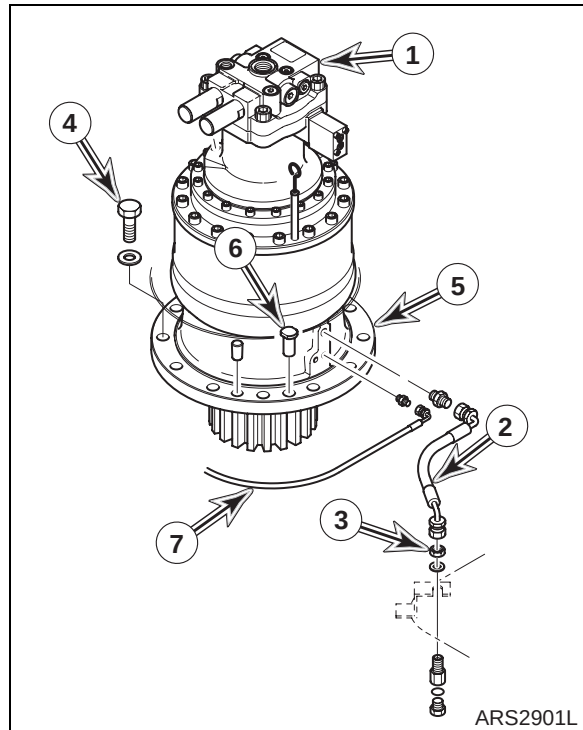

Figure 34
2. Make sure two alignment pins (6, Figure 34) are installed in flange of swing reduction gearbox (5).
3. Using a suitable lifting device, sling swing motor (1, Figure 34) and position swing motor and reduction gearbox (5) as an assembly on unit.
4. Install twelve bolts and washers (4, Figure 34) to secure swing reduction gearbox (5) to frame.
5. Connect hose (2, Figure 34) to main frame by tightening nut (3).
6. Connect grease lubrication line (7, Figure 34) to reduction gearbox (5).
7. Connect hoses as tagged during removal to swing motor (1, Figure 34).